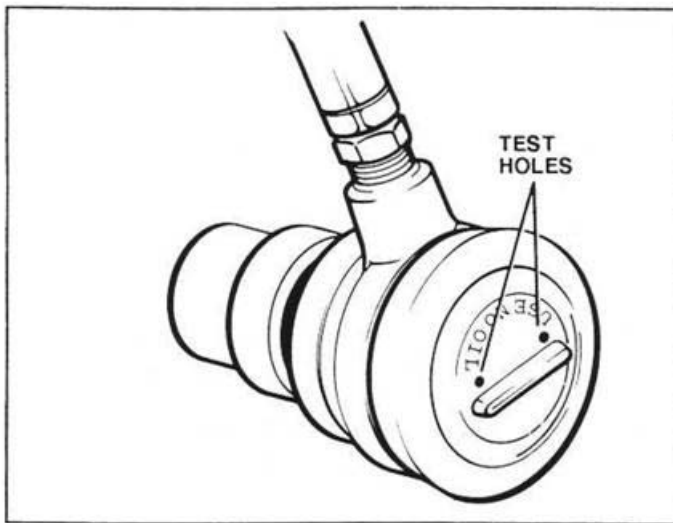

Figure 6. Supply Valve.
6. Cup/seal mouth on hand and hand on demand valve. Blow into the small test holes (Figure 6) on the back of the demand valve. Ensure that the valve energizes by hearing the high flow exit from the valve.
7. Close the nitrous oxide cylinder valve and (cup hand) blow into the small test holes (Figure 6) on the back of the supply valve. Ensure that the valve energizes by hearing the high flow exit from the valve. As the nitrous supply depletes the pressure in the hose, the whistle will sound with each test.
8. Shut off the oxygen supply and blow (cup hand) into the small test holes in the back of the valve (Figure 6) once more. Verify that the mixture pressure drops to zero and that flow through the valve stops.